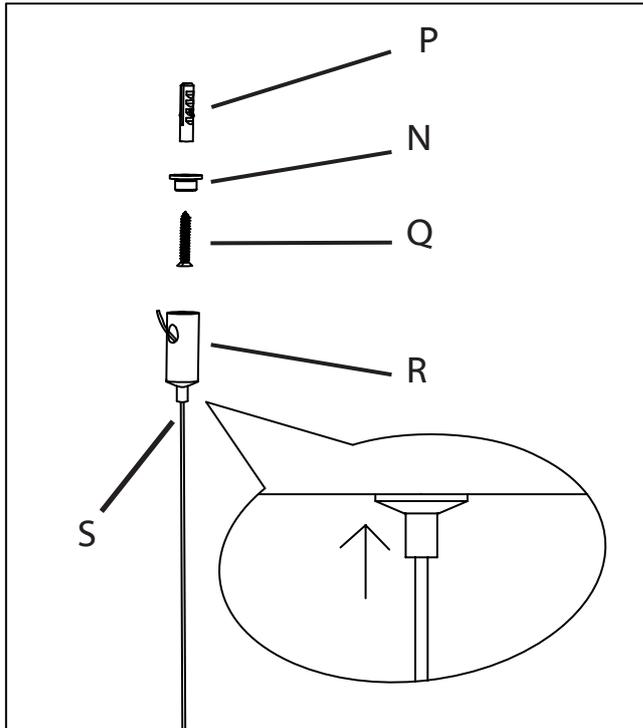
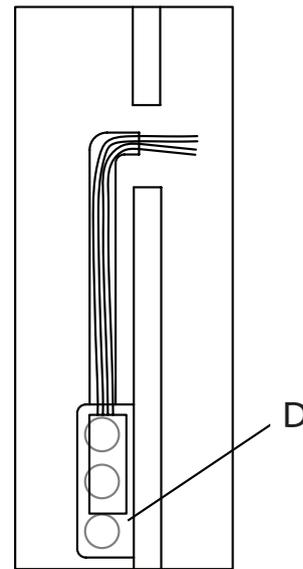

Fig. 2
Fig. 1
1. Shut off power to the outlet box (A).
2. Screw the stem (B) into the bracket (C). Repeat for the other end.
3. The LED driver (D) must be installed in a remote and accessible location near the fixture in accordance with local electrical code (Fig. 1).
- c. Connect the LED driver's positive (+) output wire (red) to the necessary length of red wire (not included) to reach the outlet box (A) location.
- d. Connect the LED driver's (D) negative (-) output wire (black) to the necessary length of black wire (not included) to reach the outlet box (A) location.
4. Determine height at which the fixture (E) is to be hung, adjust power cords (F) to desired height and secure by tightening the set screws (G). Reserve extra cord in the canopies (H).
5. Attach the mounting plate (J) to the outlet box (A), secure with outlet box screws (K).
- c. Carefully place the connections in the outlet box (A).
7. Install the canopy (H) to the mounting plate (J) and secure with set screws (L) using the provided Allen key (M).
9. **For 2818-8 & 2818-8-J20 ONLY:** For the center support, install the mounting bracket (N) to the ceiling with anchor (P) and screw (Q), then screw the post (R) onto the mounting bracket. Insert the cable (S) into the post and adjust to the desired length: to shorten, push the cable up; to lengthen, push in the plunger while pulling down on the cable, release the plunger to lock. Cut off the excess cable where it exits the post. (Fig. 2)
10. Restore power to the outlet box (A).